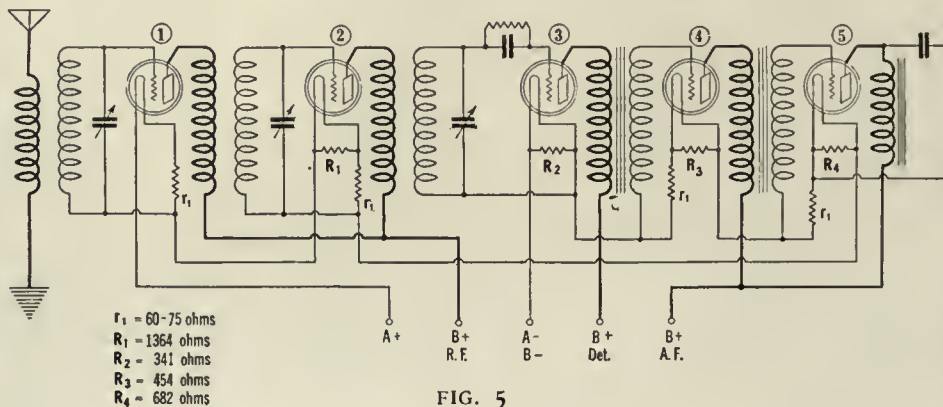

FIG. 5
lined above. From a study of Fig. 5 it may be seen that r.f. currents in tube No. 1 must traverse the filament of tube No. 2; likewise, those currents in tube No. 2 must pass through the filament of tube No. 5. The question might arise whether or not this would be a source of regeneration. It was found, however, that the inclusion of the 60-ohm resistances in the grid circuit of
A very simple and satisfactory method of reducing the filament current overload is to shunt a bypass resistance across each filament, as shown in Fig. 5. These resistances do not all have the same values, and their proper size, for 199 tubes, is determined as follows:-
60-ohm resistor ahead of each amplifier tube for grid bias. (see Fig. 5).
3. Place shunt resistances across each filament, as shown in Fig. 5.